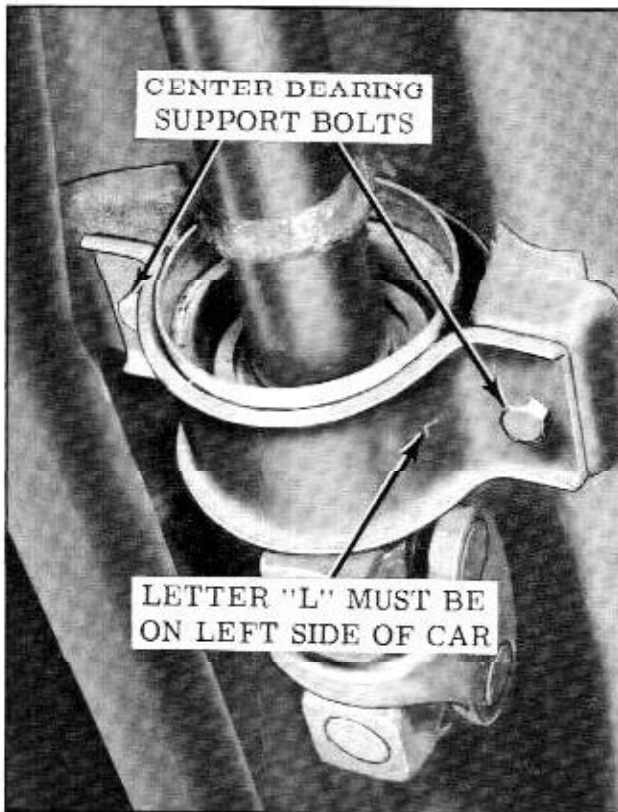

Fig. 6-31 Center Bearing Bracket
3. Remove 2 bearing support to body bolts and remove shaft. (Fig. 6-31)